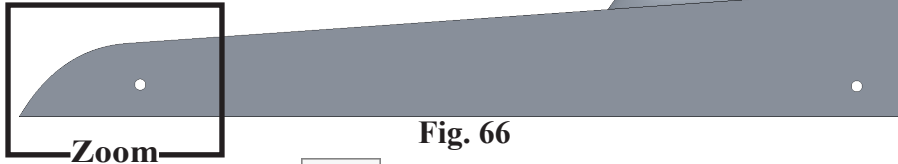

Fig. 66
Step 2. Zoom in around **front axle hole**, **Fig. 66**. To zoom, place the cursor over the front axle hole area and spin the wheel on mouse back. While spinning the wheel keep cursor on the area.